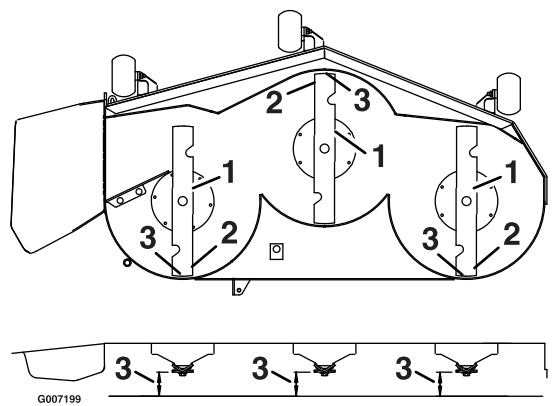

Figure 61
3. Carefully rotate the blades so they are facing front to rear (Figure 61).
4. Measure from the tip of the front blade to the flat surface and the tip of the rear blade to the flat surface (Figure 61).